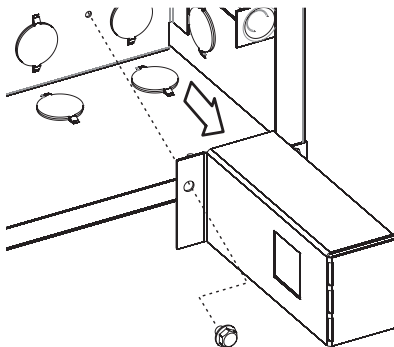

Figure 8
6. Remove junction box on right by removing the screw securing it to the fireplace. **See Figure 8.**